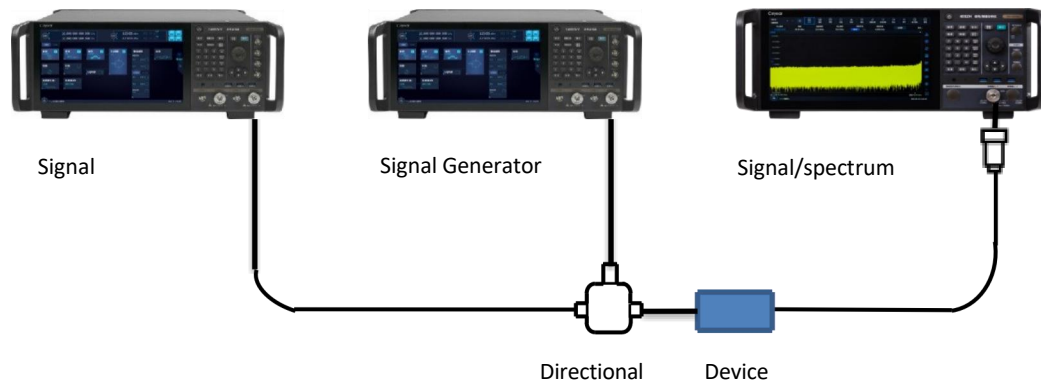

Figure 4.24 Third order intermodulation measurement connection settings
**Step 1. Connect the RF output ports of the two signal sources through a directional coupler, and place the DUT (such as an amplifier) between the output port of the directional coupler and the input port of the analyzer. The specific connection is shown in Figure 4.24.**